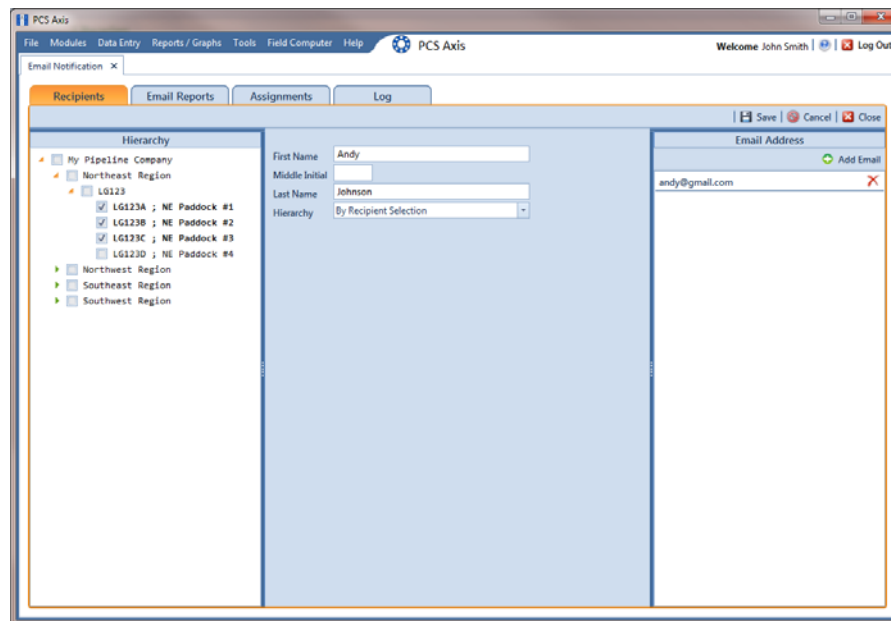

Figure 12-6. Recipients / External User
- 4 Click the toggle arrow **▶** in the *Hierarchy* panel to view a list of pipeline segments in the hierarchy. Click the check box for each pipeline segment you want to assign to the user (Figure 12-6).
The *Email Address* panel displays all email addresses set up for a user selected in the center panel (Figure 12-6).